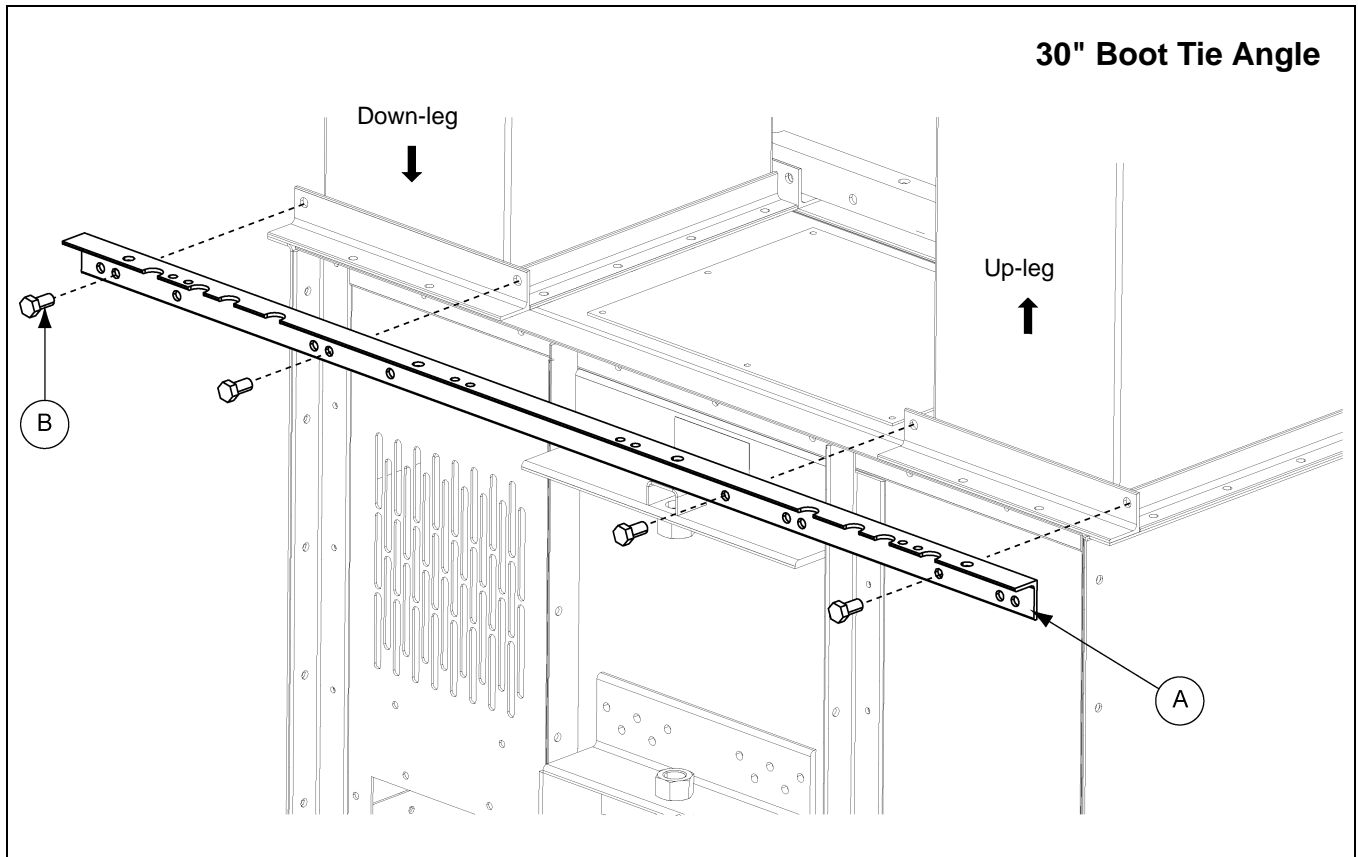
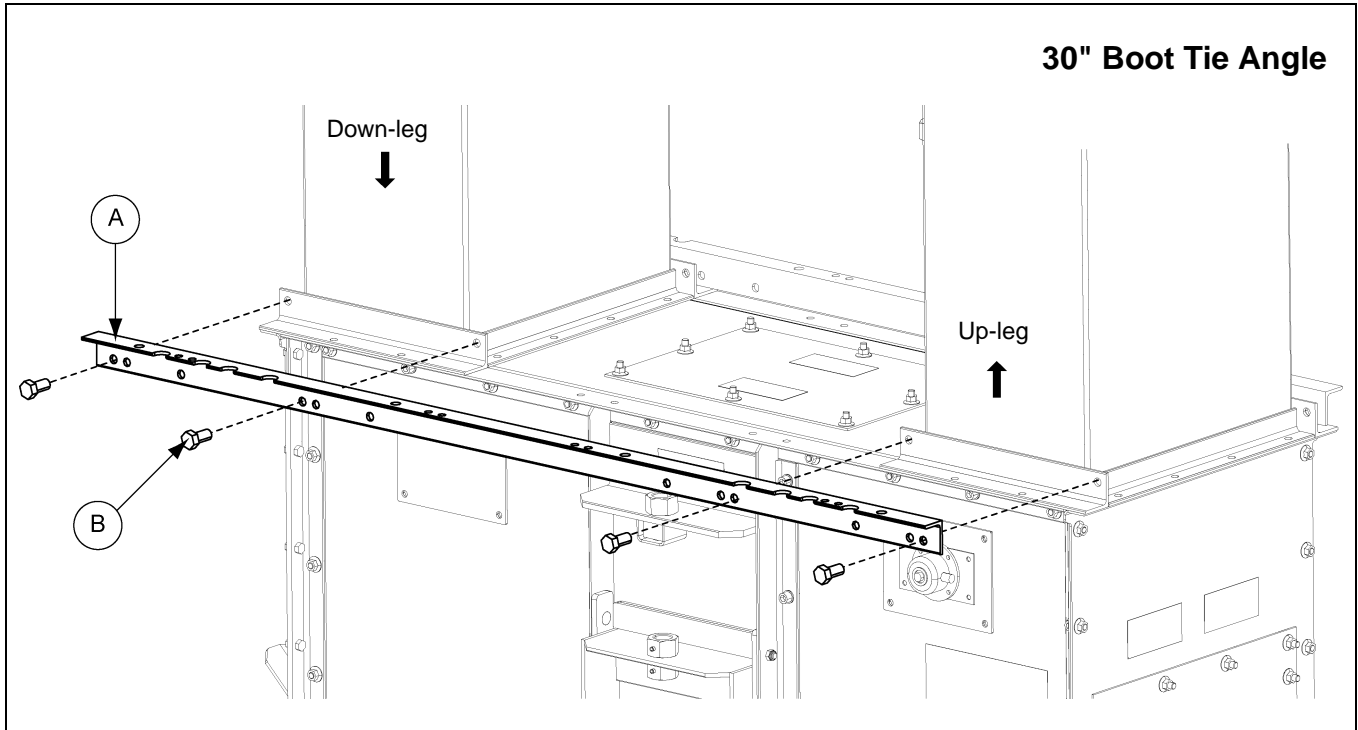

Figure 6A 30" Boot Tie Angle
Figure 6B 36" Boot Tie Angle
(See Figure 6A below and Figure 6B on Page 23.)
- a. **For 30" Boot Tie Angle:** With lip of tie angle up and outward, align tie angle so that it extends beyond the trunking at each end. *(See Figure 6A.)*
b. **For 36" Boot Tie Angle:** With lip of tie angle up and outward, align both edges of tie angle to edges of trunking. Note the tie angle will not extend beyond the trunking. (See Figure 6B.)